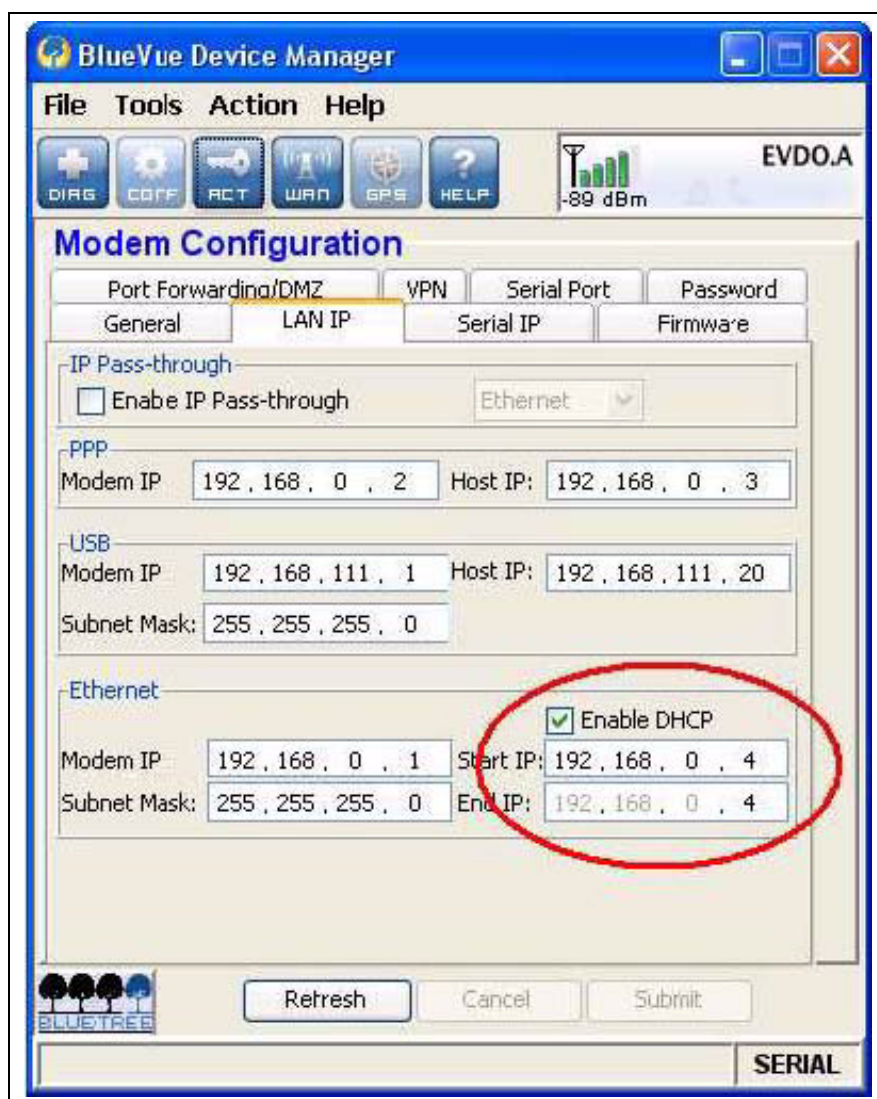

Figure 9D Enter DHCP Address Range
5. Click on the LAN IP tab and the following screen should appear. (See Figure 9D.) Make sure the checkbox for DHCP is checked and the Start IP and End IP addresses are as shown below.